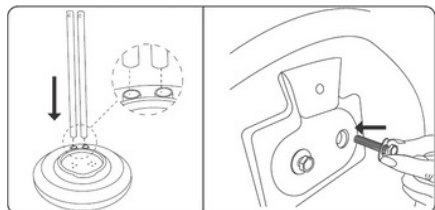

Fig. 1
1. Align the two support tubes with the holes in the base, then secure them from below using the included screws. (Fig. 1).